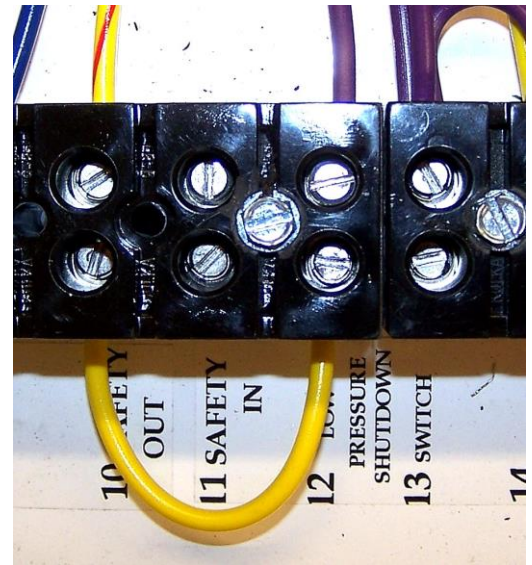

Figure 4
STEP 5 - Install new wire jumper between TS10 & TS12 (Figure 4).